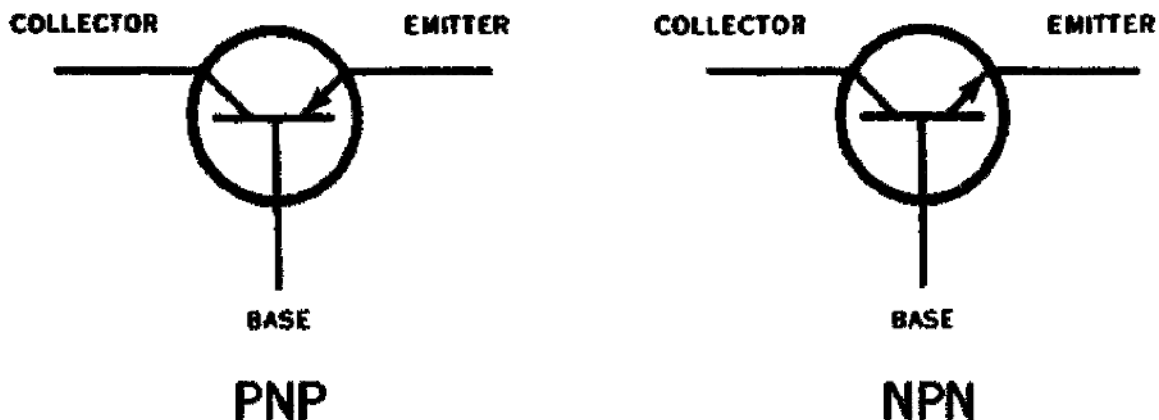

Figure 118. Transistor symbols.
31. **Transistor Triode Symbols.** Figure 118 shows the symbols used for transistor triodes. In the P-N-P transistor, the emitter-to-collector current carrier in the crystal is the hole. For holes to flow internally from emitter to collector, the collector must be negative with respect to the emitter. In the external circuit, electrons flow from emitter (opposite to direction of the emitter arrow) to collector.